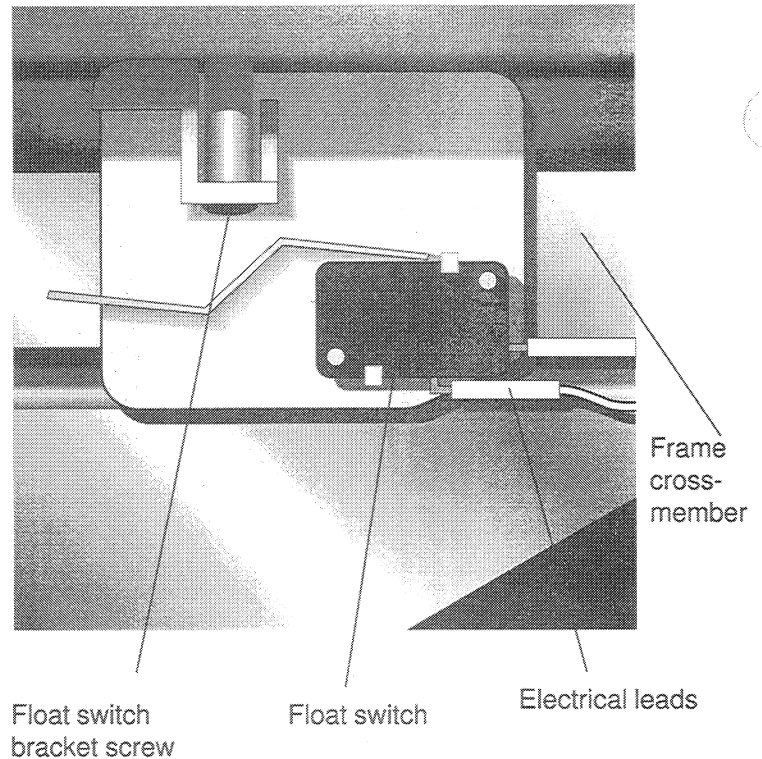

Figure 10
3. Remove electrical leads to float switch. (See Figure 10.)
4. Unsnap switch from tub frame. (See Figure 10.)